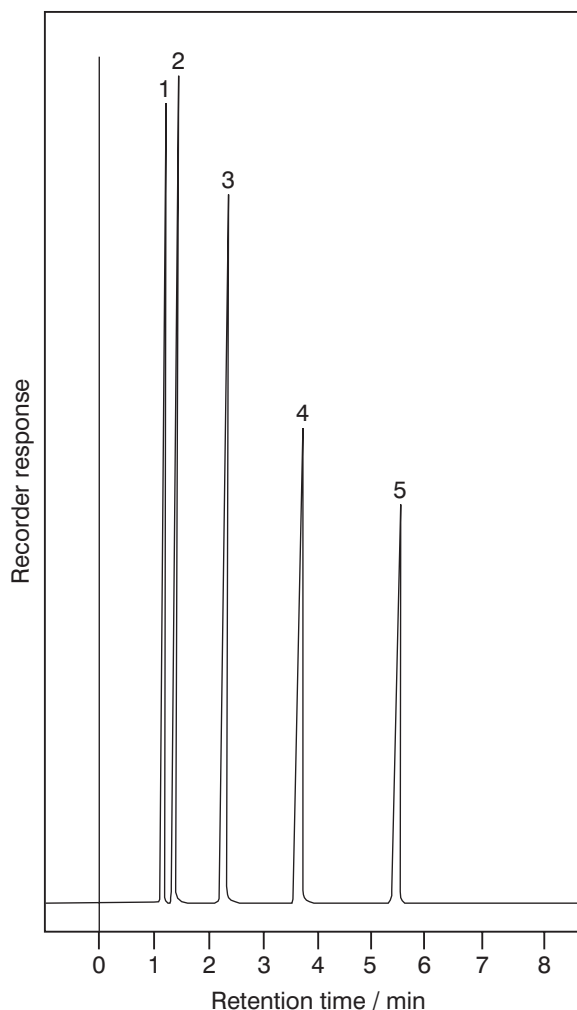
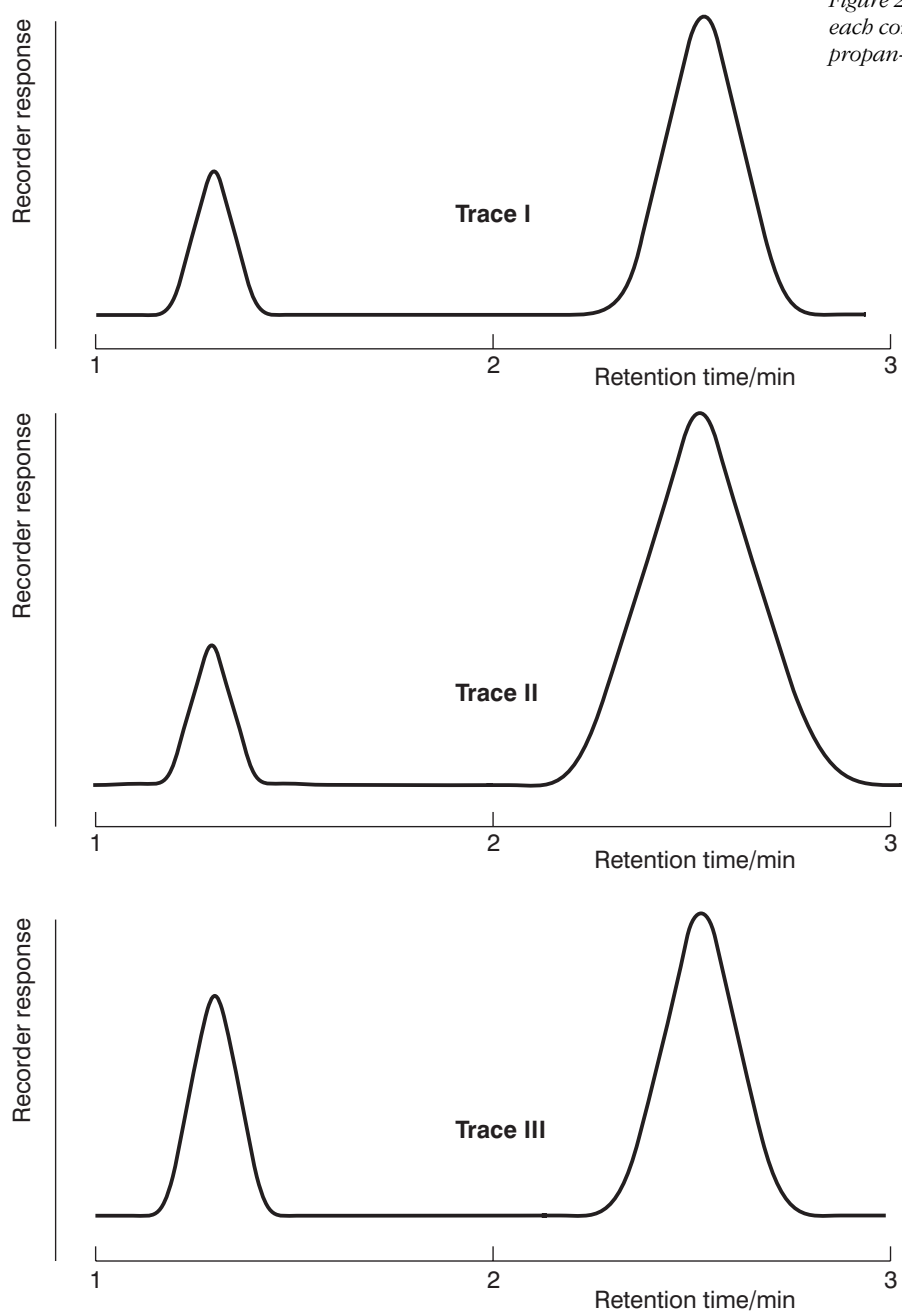

Figure 1 Chromatogram of a mixture of the first five straight-chain primary alcohols: 1, methanol; 2, ethanol; 3, propan-1-ol; 4, butan-1-ol; 5, pentan-1-ol.
Figure 2 The g.l.c. traces of three blood samples each containing a standard amount of propan-1-ol
Figure 2 shows g.l.c. traces for three blood samples. Trace I corresponds to a BAC of 80.
Note: In practice the peaks are much narrower, as in Figure 1, and the areas under the peaks are found using special computer programs built into the recorders attached to the gas chromatograph. Figure 2 is drawn to enable you to calculate the areas yourself.
- e Suggest a reason why propan-1-ol is chosen for the standard rather than any of the other alcohols represented in Figure 1.